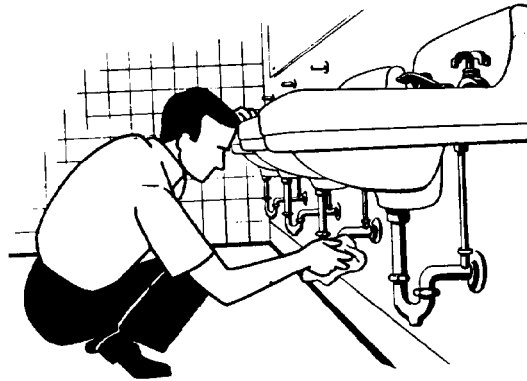

Figure 40. Wiping Washbowls and Hardware.
(1) Dampen sponge in cleaning solution and go over surface of bowl and metalware, being careful to rub inside of bowl hard enough to remove any soap deposits. Do not have cloth wet enough to cause water to drip on floor or splash on wall.
(2) Rinse surface with sponge dampened in clear water.
(3) Dry bowl and metal parts with clean dry cloth, fig. 40.
(4) Lavatory should be clean and bright. Metalware should be clean. There should be no water or detergent solution spilled on floor or splashed on wall near back of fixture.